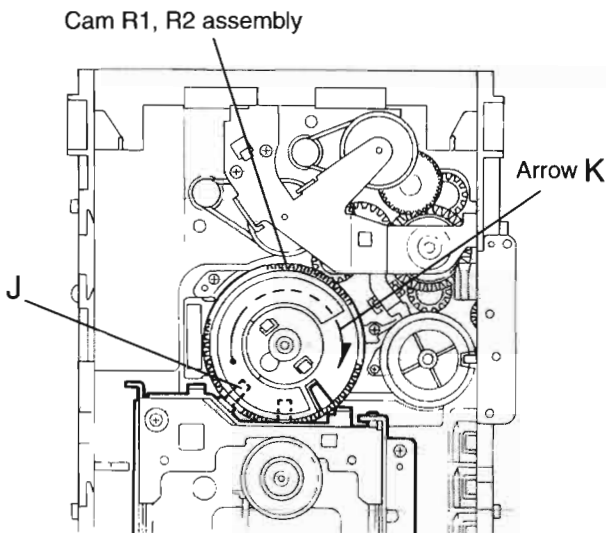

Fig.11
**Removing the CD traverse mechanism (See Fig.11 and 12 )**
1. For dismantling only the CD traverse mechanism without removing the CD loading mechanism assembly, align the shaft "J" of the CD loading mechanism assembly to the position shown Fig.11 while turning the cam R1 and R2 assembly in the arrow direction "K" .